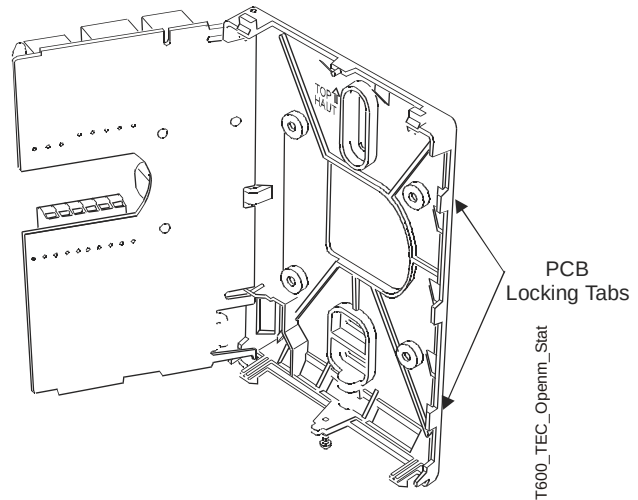

Figure 2: Opening the Thermostat PCB
2. Unlock the Printed Circuit Board (PCB) by carefully pressing the locking tabs to the right (Figure 2). Open the thermostat's PCB to the left.